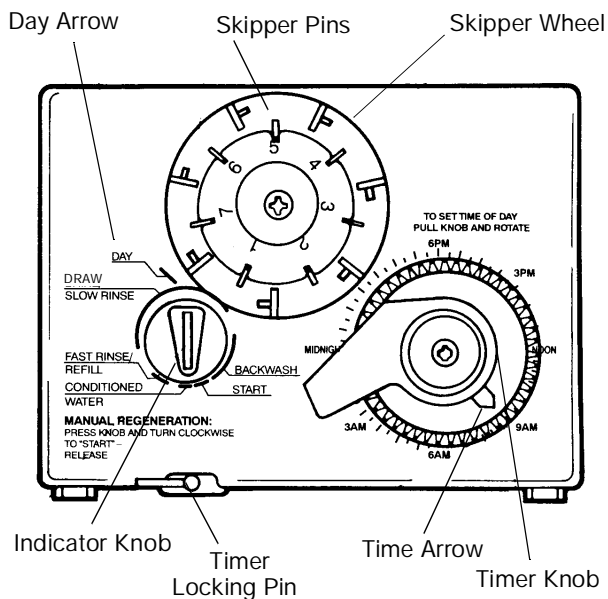

Figure 5
**Note:** The following steps will require turning the indicator knob (Figure 5) to various positions.
1. Set the number of days of regeneration on the skipper wheel (Figure 5).
**Note:** The Timer Locking Pin should always be horizontal (Figure 5) during operation.
Electricity is used only to run the control and to rotate the camshaft. All other functions are operated by water pressure. Therefore, in the event of a power outage, all the regeneration positions may be dialed manually by depressing the indicator knob and turning **COUNTERCLOCKWISE** (Figure 5). The following cycle times should be used for proper regeneration: